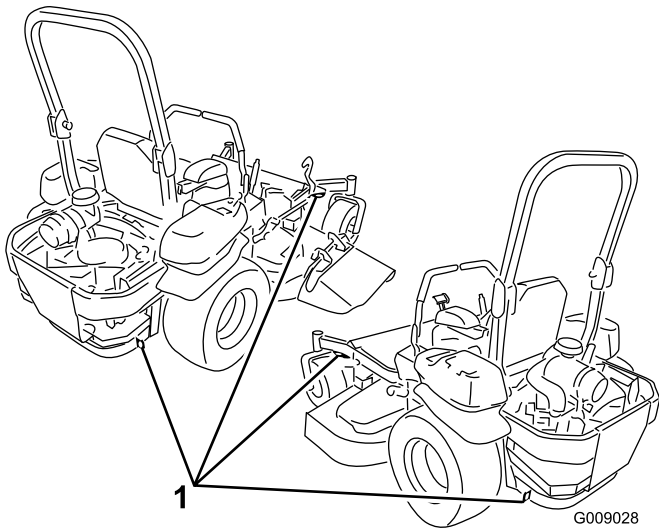

Figure 38
5. Use the metal tie down loops on the machine to securely fasten the machine to the trailer or truck with straps, chains, cable, or ropes (Figure 38).